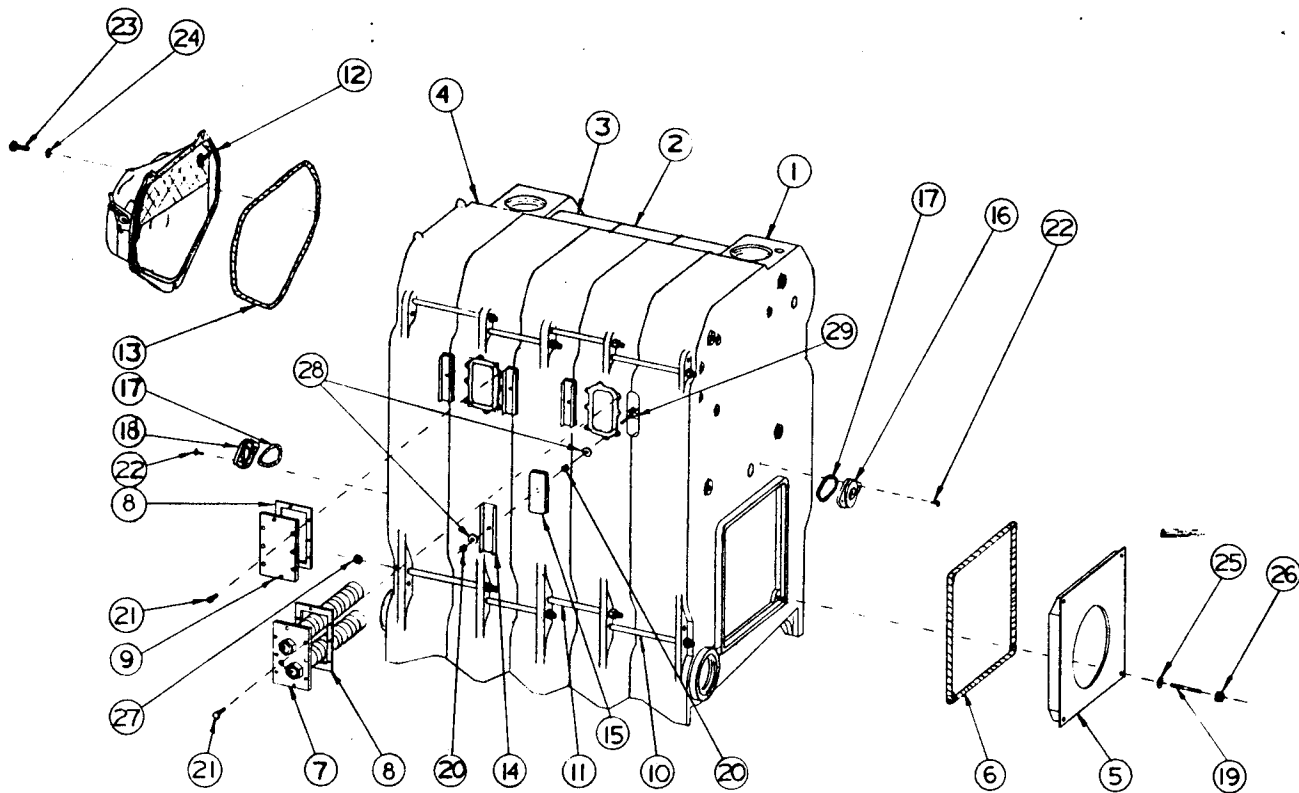

FIGURE 5
- 9. Four 1/2" x 3 1/2" studs are provided to secure the burner mounting plate to the front section (see FIGURE 5).
- 10. Make a small continuous bead of sealing rope adhesive in the groove around the burner mounting plate opening in the front section (see FIGURE 5). Position the 1/2" diameter by 76" long rope in the groove making sure the ends overlap at least 1" and install the burner mounting plate using the 1/2" washers and nuts provided. Make sure burner plate is installed properly with the part number and the word "up" positioned at the top.
- 11. Make a small continuous bead of sealing rope adhesive in the bottom of the sealing groove located around the flange of the front observation port assembly. Position the 3/8" diameter by 12" long sealing rope in the sealing groove making sure the ends overlap at least 1". Install the front observation port assembly to the front section using the number 10-3/4" truss head screws provided (see FIGURE 5).
- 13. If the boiler was ordered with "TI" or "SI" intermediate section(s), install the indirect water heater(s) and gasket(s) or heater opening cover plate(s) and gasket(s) using 3/8" x 3/4" hex head screws and washers provided (see FIGURE 5).
- 14. Place the 10 1/2" x 1 7/8" cerafelt blanket insulation pieces against the cleanout plates. Place a 1/4" x 1 3/4" carriage bolt in the cleanout opening as shown in FIGURE 5. Place a washer and nut over the bolt to hold it in place. Mount the cleanout plate over the opening and bolt the cleanout plate in position (see FIGURE 5).
17. Position the draft hood collar to fit over the flueway outlet on the back section. Secure the draft hood collar to the back section using the $\frac{1}{2}$ " x $1\frac{1}{2}$ " hex head cap screws and washers provided (see FIGURE 5).